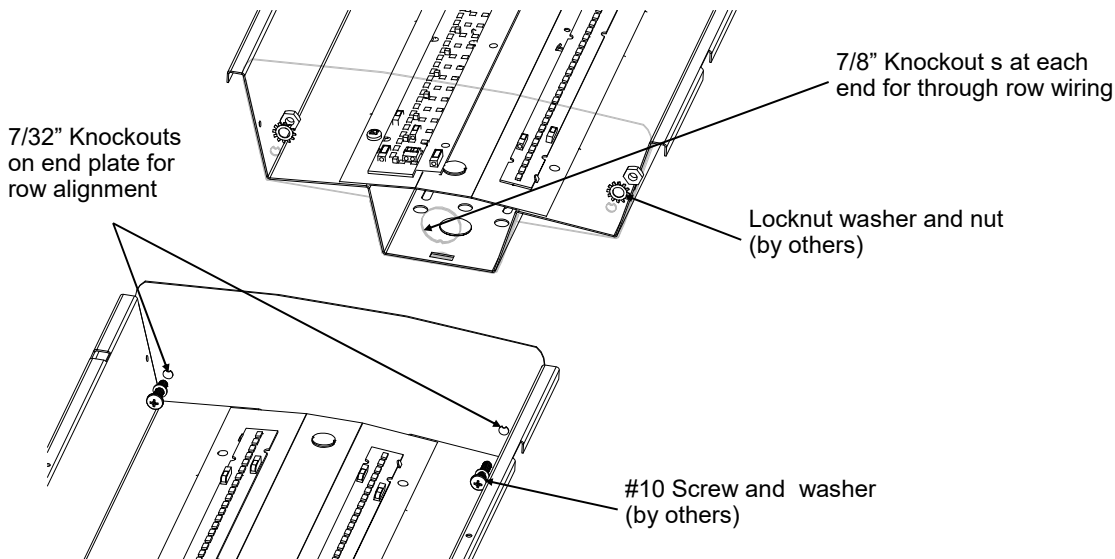

Fig. 1
Step 3. Hang the next fixture and connect to the open end of previously mounted fixture. Punch out 7/32" (0.218") knockouts on endplate and use #10 screw with washer and locknut with nut on the inside of fixture. (Hardware by others).(Fig. 1).